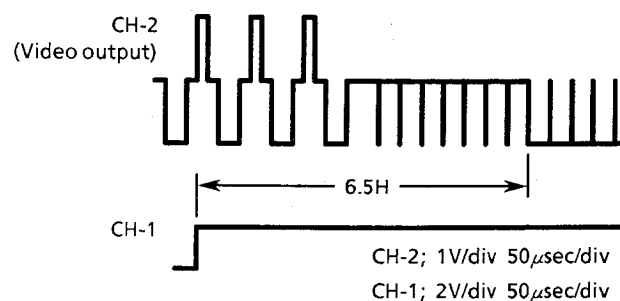

Figure 1-4.
3. Adjust R704 (PG ADJ. (NT)) so that the waveform on the oscilloscope screen be as shown in *Figure 1-4*.